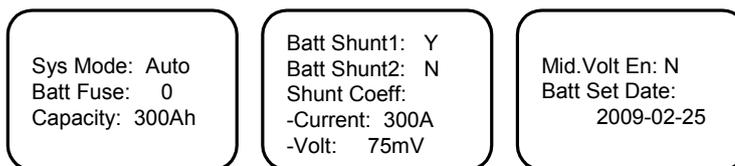

Figure 4-28 Battery basic parameter setting screen
1. At the **BAT Settings** screen, press ▲ or ▼ to select **Basic Setting** menu. Then press the **ENT** key to enter the battery basic parameter setting page, as shown in Figure 4-28.